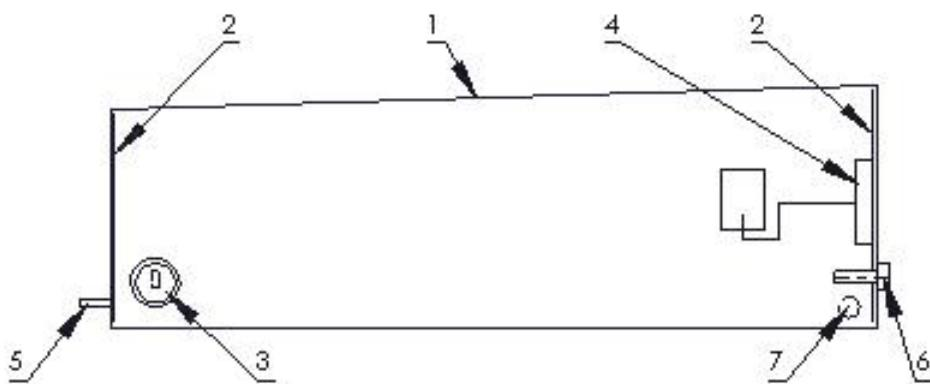

Fig. 4-4: Fuel tank (left)
Fuel tanks (Fig. 4-4) are of integrated all-metal structure consisting of aluminum sheet metal skin (1) and four ribs (2). There are on each tank filler neck (3), fuel level sender (4), ventilating tube (5), finger screen (6) and drain valve (7).